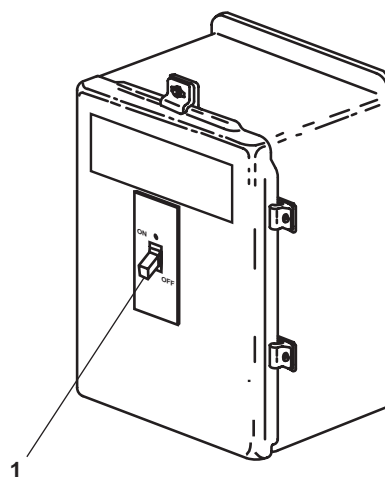

Figure 16. Workshop Exhaust Fan Motor Controller
11. In AMS 2, at the workshop exhaust fan motor controller the ON-OFF switch (figure 16, item 1) to ON.